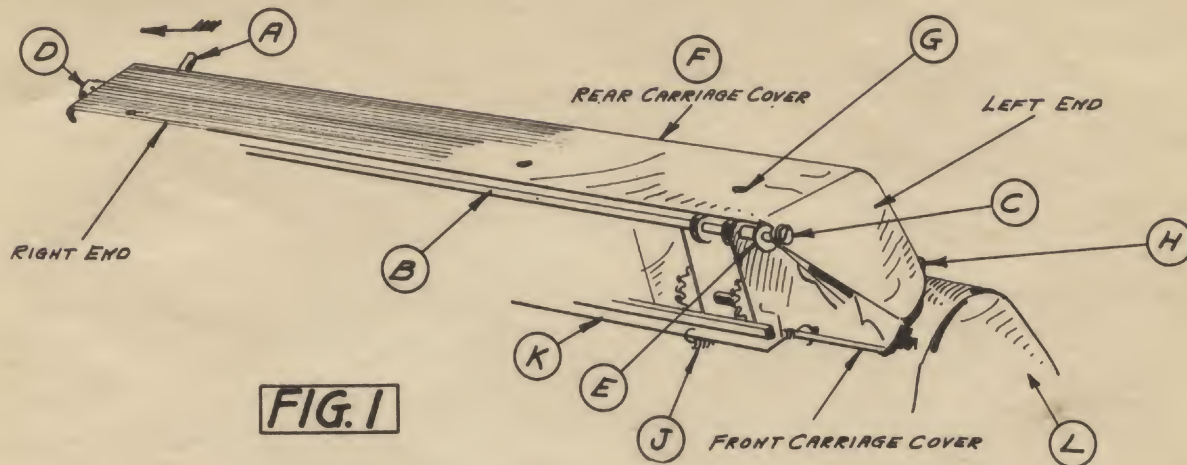

FIG. 1
- 62 TO OBTAIN THE PROPER MESHING AS SHOWN IN FIG 2 OF INTERMEDIATE DIAL GEARS WITH INTERMEDIATE GEARS TWO ADJUSTMENTS ARE PROVIDED ON EACH SIDE OF THE CARRIAGE - SCREWS (U) ARE FOR UP AND DOWN MOVEMENT - FOR BACKWARD AND FORWARD ADJUSTMENT - LOOSEN SCREWS (W) AND ADJUST WITH SCREWS (T) SEE FIG. 1.
- 64 IF THE HINGE ROD STUD (C), HANDLE (D) AND CARRIAGE SUPPORT LINK (E) ARE ASSEMBLED THEY MUST BE DISMANTLED. HINGE ROD (B) NEED NOT BE DISTURBED.
- 65 MOVE LEVER (A) IN DIRECTION OF ARROW—REPLACE CARRIAGE COVER CASE (F) (RIGHT END FIRST). LIFT UP LINK (E) INTO PLACE AND INSERT STUD (D) AND TIGHTEN SECURELY. REPLACE SCREWS (G) AND (H)—REPLACE HANDLE (D)—AND KNOB AT (A)
- 66 HOOK UP SPRINGS (J) (ATTACHED TO EACH END OF FRONT CARRIAGE CASE (L)) TO THE LOCK LEDGE (K)—AS SHOWN FIG. 1.
- 67 NOTE—WHEN THE CARRIAGES ARE PROPERLY MESHED; BEFORE ADJUSTING THE LOCK LATCHES (M) NOTE CAREFULLY 356 AND 358 ON PLATE 53—THIS BULLETIN.—SEE ALSO PLATE 66A—THIS BULLETIN—